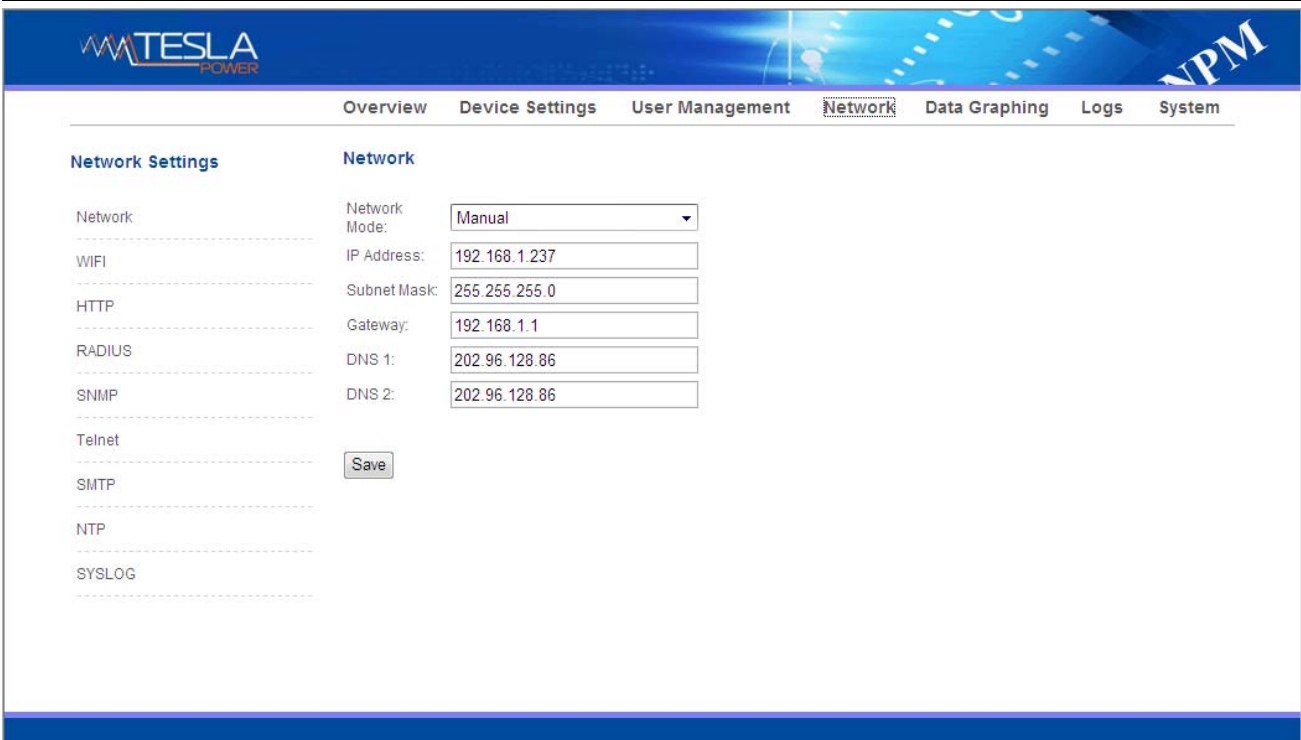

Figure1-5
A. Network mode: Manual or automatic acquisition. See figure 1-5